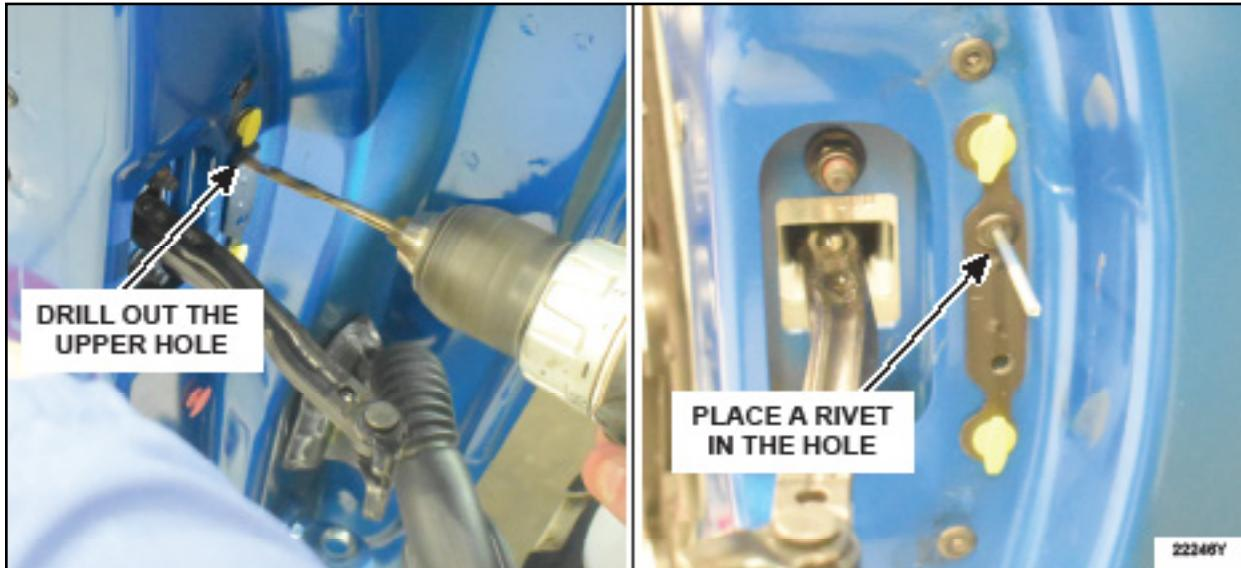

FIGURE 19
16. Using the rivet plate as a template, center punch the upper plate hole and drill a 5 mm (13/64 in.) hole. Then, place a rivet in the hole but do not tighten at this time. See Figure 19. Proceed to the next step.